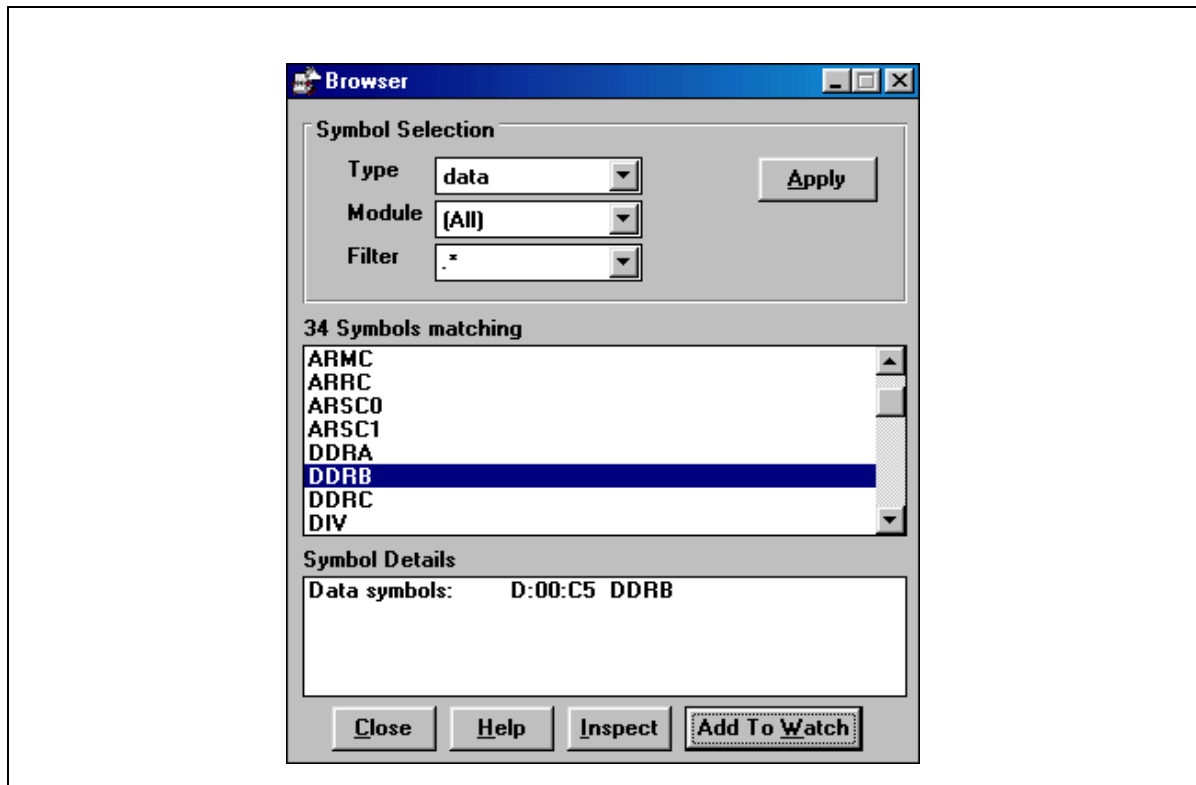

Figure 12: Browser window
- 1 In the **Control Bar**, click **Windows -> Browser**. The **Browser** window pops up (see *Figure 12*).